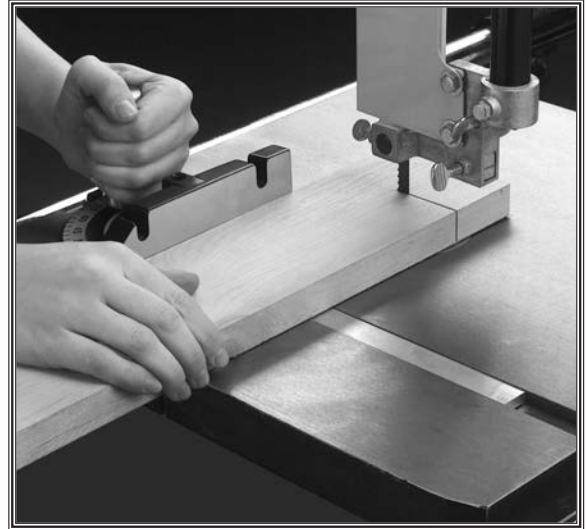

Figure 42. Crosscutting a board on a typical bandsaw.
“Crosscutting” means cutting across the grain of the wood. This is most often done by using the miter gauge for support when making the cut. It can be done freehand as well (see **Figure 42**).
3. Slowly and evenly feed the wood into the blade as shown in **Figure 42**. **DO NOT** force the workpiece into the blade!